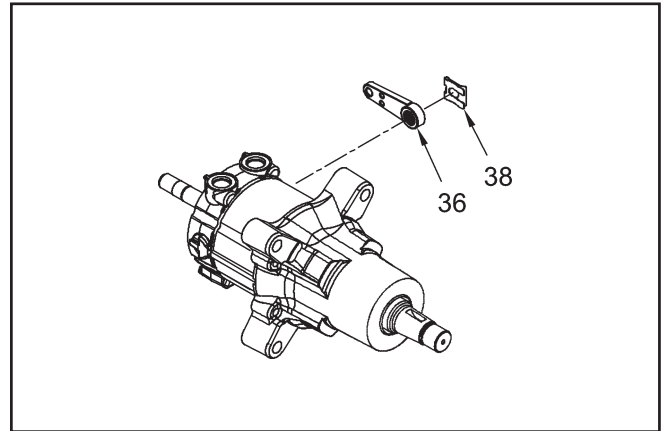
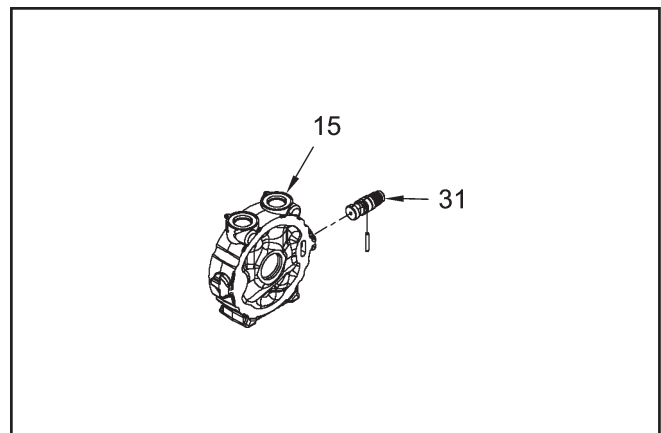

Figure 12
Figure 14
1. If the hub (56) has not been removed from the PRM®, remove the hex lock nut (55) with an impact wrench and discard. Remove the hub (56) and discard. If the axle shaft (34) turns during nut removal, manually apply the PRM brake actuating handle (36, Fig. 12) to prevent the axle from turning. Use a wheel or gear puller and the hub puller adapter, located in the seal kit, to remove the hub from the shaft.
2. Remove the woodruff key (71) from the axle shaft (34).
3. Remove the four housing screws (14), and motor housing (2).
9. To ease reassembly, mark the port block (15), and ring gear (23) prior to disassembly. Also mark the brake actuating handle (36, Fig. 12) and brake cam (31, Fig. 14).